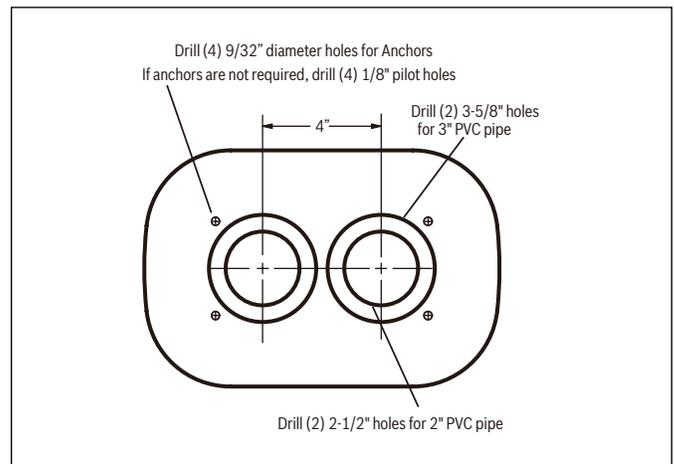
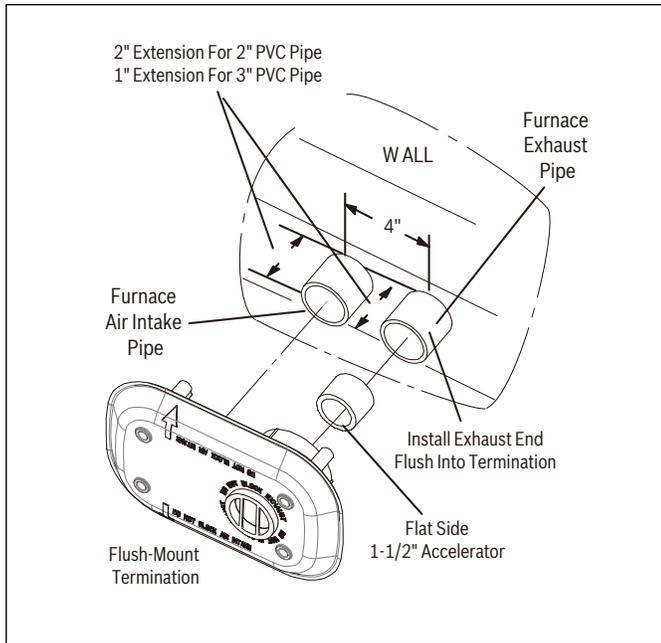
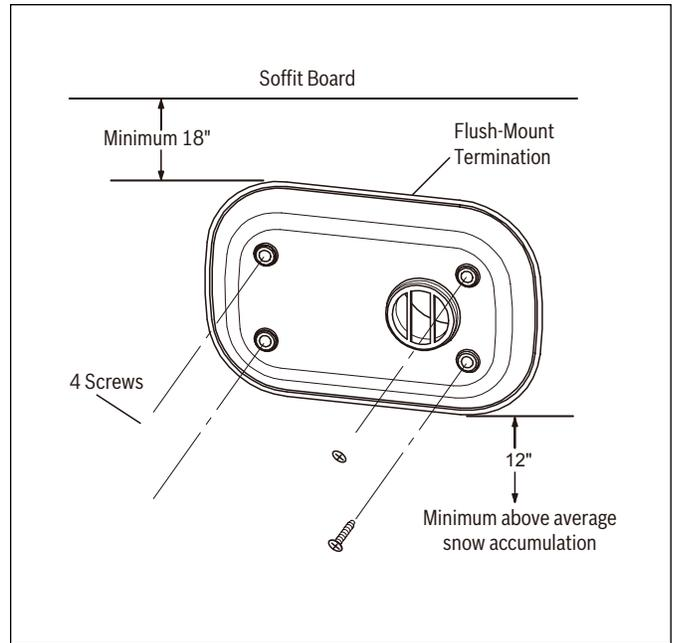
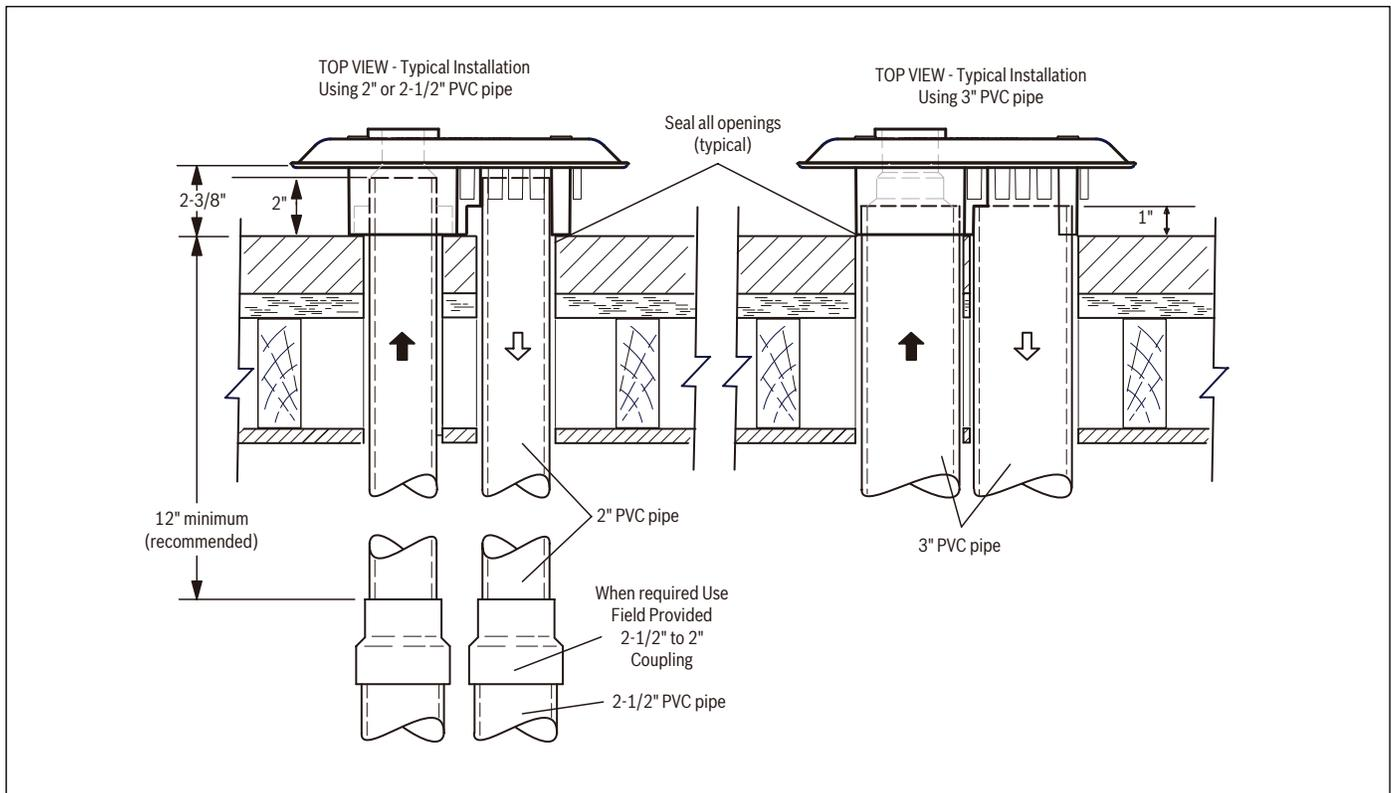

Figure 38 Mounting example
Figure 39
Figure 41
Figure 40 Typical installation
4. Using the template as a guide, drill two 3-5/8" holes for 3" PVC pipe or two 2-1/2" holes for 2" PVC and 2-1/2" PVC pipe. For 2-1/2" PVC installations transition to 2" PVC and install into flush-mount as shown in Fig.39. Do not vary from the template. All dimensions are critical. There must be 4" center line to center line for either 3" pipe or 2" pipe. See Figure 38.
5. When determining pipe length, include the length of exhaust and intake pipes that extend beyond the wall and are flush into the flush mount termination. For 3" pipe add an extra inch to the overall length. For 2" pipe add an extra 2" to the overall length. See Figure 39.
6. The 1-1/2" accelerator must be used for all unit installations. Fully insert and glue the accelerator (flat side first) into the 2" exhaust opening. See Figure 39.
7. Install the intake pipe and exhaust pipe through the holes drilled in step 4 and into the flush mount termination. Exhaust pipe may be glued but it is not necessary. See Figure 39. Seal all openings as indicated in Figure 40.
8. Secure the flush-mount termination to the wall using the provided screws and anchors or field-provided screws if applicable. See Figure 41. Termination should be flush against the wall as shown in Figure 40.